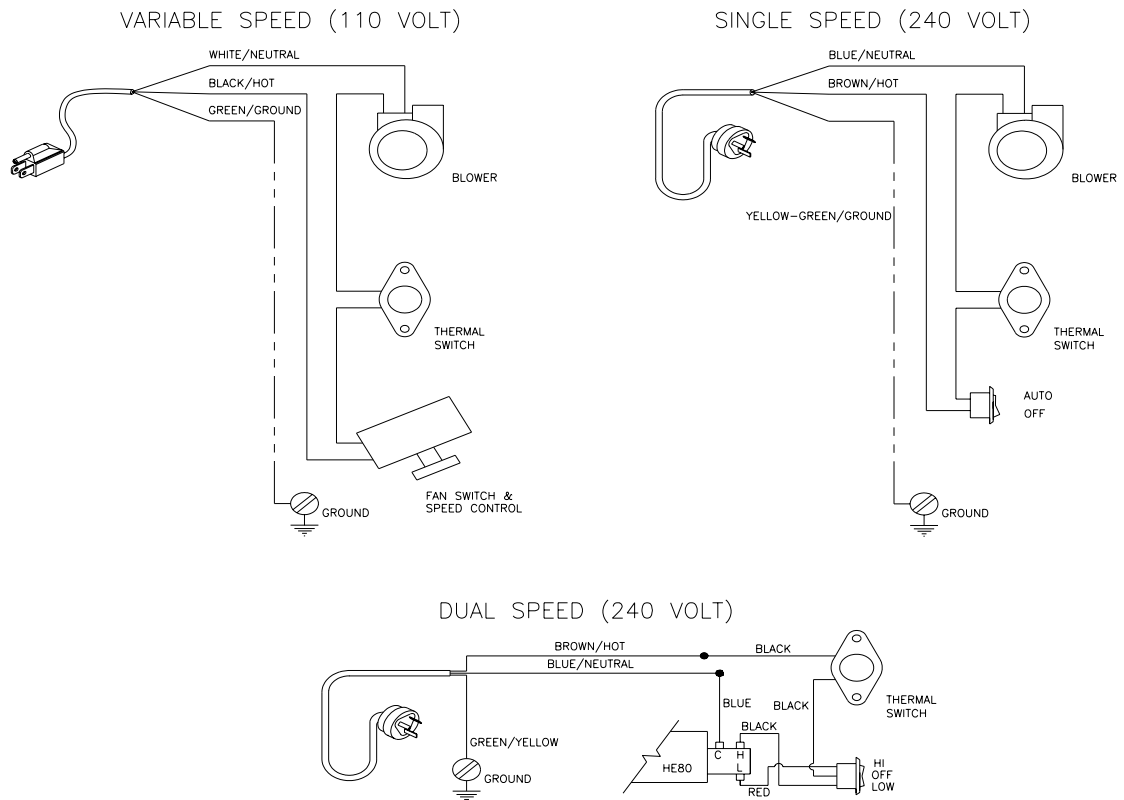

Figure 29
10. See Figure 29 for fan electrical schematic.